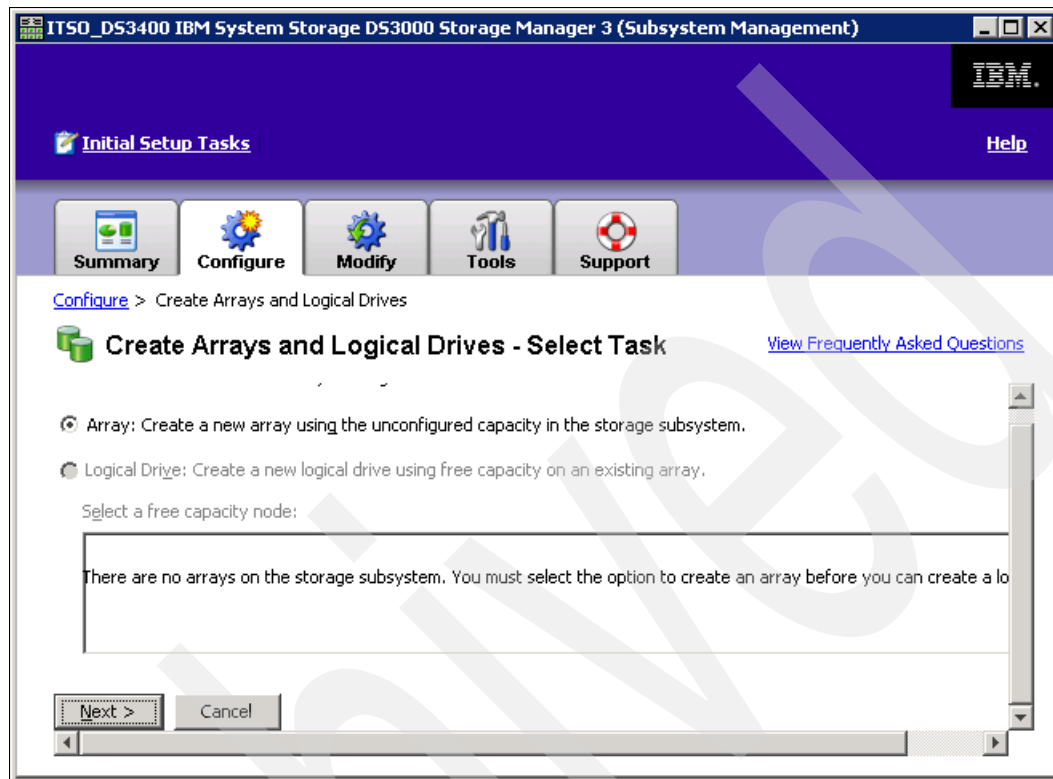

Figure 9-47 Create Logical Drives - select capacity type
To create a new array from unconfigured capacity, select the first option from Figure 9-47 on page 171, and click **Next**. The options for Free Capacity will be grayed out as there are no arrays currently defined.
1. First, we have to select **Array: Create a new array using the unconfigured capacity in the storage subsystem**. We show this in Figure 9-47.